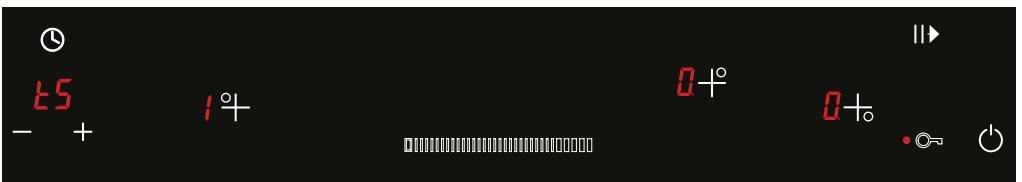

Figure 27
1. To determine the increment value in the programming mode (**LS**); if (**!**) is active on the first hob, press **+** and **-** keys to allow increment one by one on the next timer setting. (See Fig. 27)